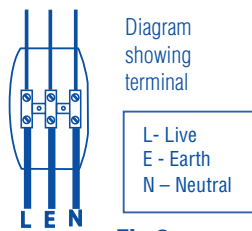

Fig.2
2. Connect the mains supply cable(s) to the terminal block (see Fig.2). Ensure that there are no exposed conductors or trapped insulation. Conductor size: 1mm - 2.5mm.